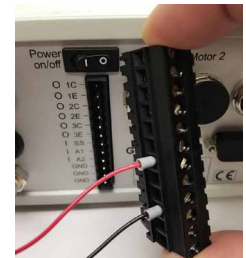

Figure 5: How connector wires attach
- The control cable between the robot and controller is supplied by the customer. The programmable controller includes a connector to accept bare wire or wire with ferrules (Figure 5).